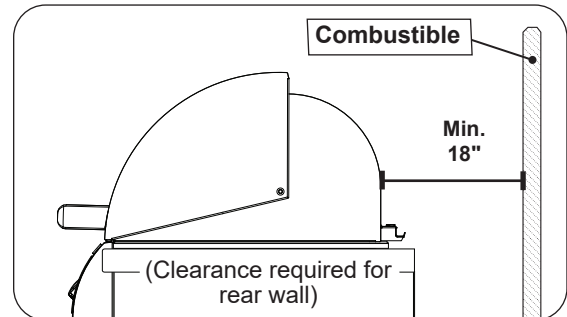

Fig. 16-3 Clearance 'C' Diagram
- The unit must have a minimum clearance of 18" from the combustible rear wall (see Fig. 16-3).